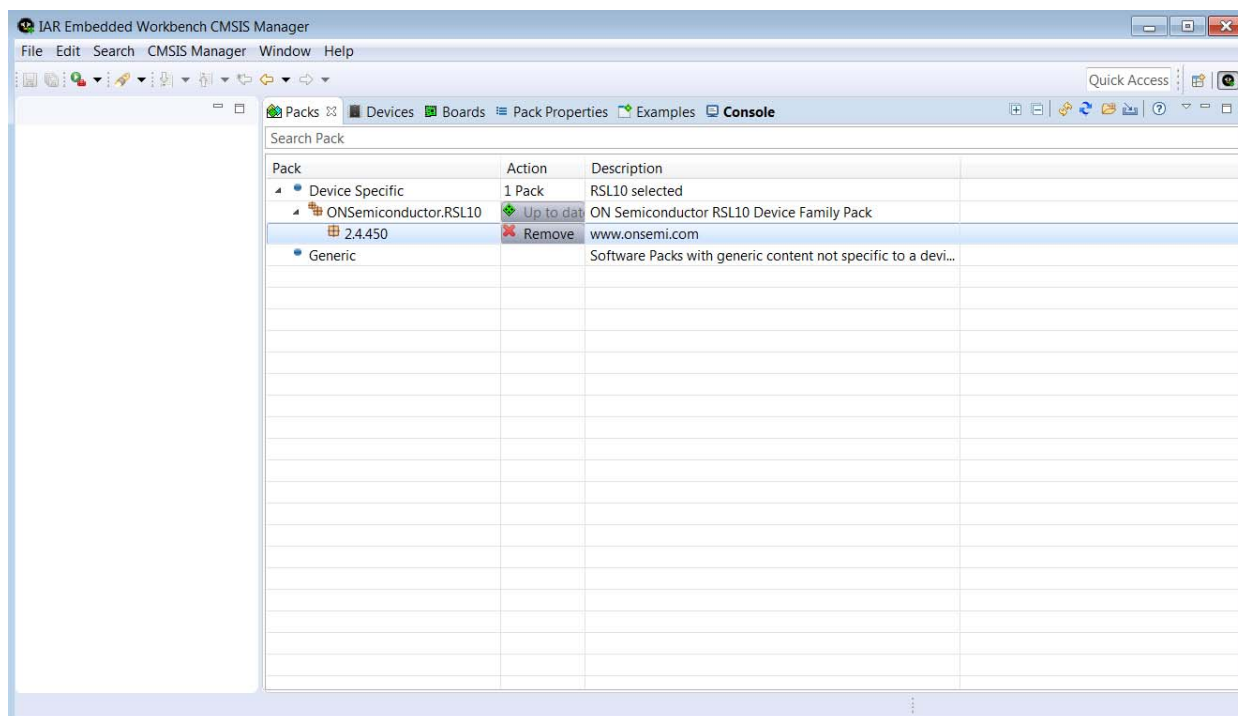

Figure 30. The IAR Embedded Workbench CMSIS Manager after RSL10 CMSIS-Pack is Installed
6. In the **Devices** tab, expand **All Devices** > **ON Semiconductor** > **RSL10 Series**, and select **RSL10** from the list. The RSL10 CMSIS-Pack now appears in the list of installed packs in the **Packs** tab. Expanding *ON Semiconductor.RSL10* makes the **Pack Properties** tab display the details of the RSL10 CMSIS-Pack. Figure 30 on page 26 illustrates what the Pack Manager perspective looks like after installation.